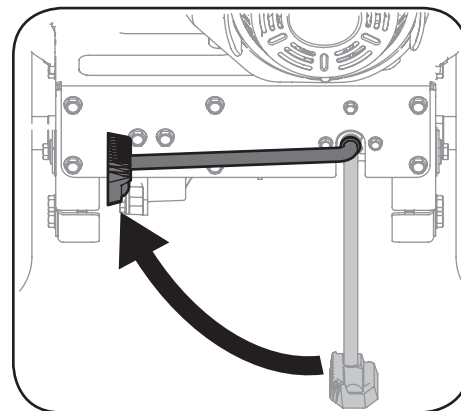

Figure 4-2
1. Roll the FLEX™ Power Base over to the water pump attachment with the kickstand UP. See Figure 4-2.